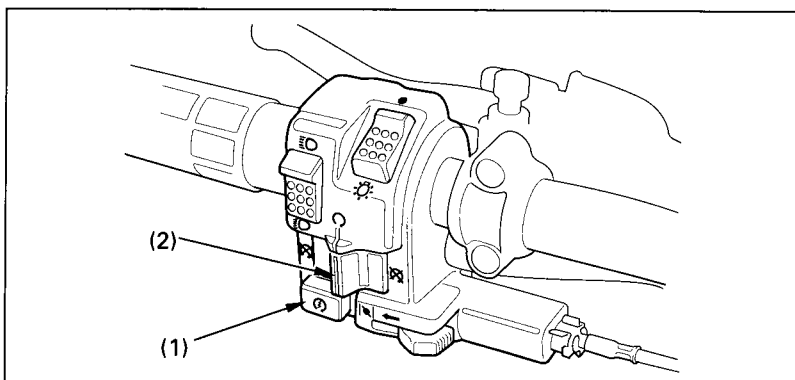

Fig. 2-7 (1) Starter button (2) Engine stop switch
The starter button (Fig. 2-7) is below the engine stop switch. To start the engine, press the starter button (1), with the transmission in neutral, the ignition switch ON (I) and the engine stop switch (2) at RUN (O).